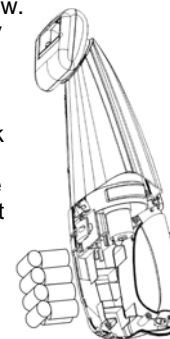

Fig. 8
5. Carefully lift out battery pack and disconnect the terminals. (Fig. 8)